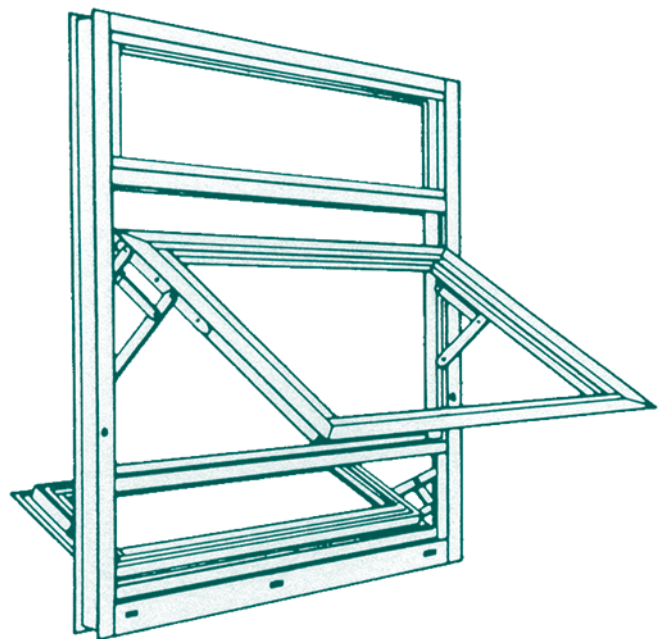

Figure 1 - Hopper and awning.
- **Hopper (project in)** – The operable sash projects horizontally, towards the user (*Figure 1*).